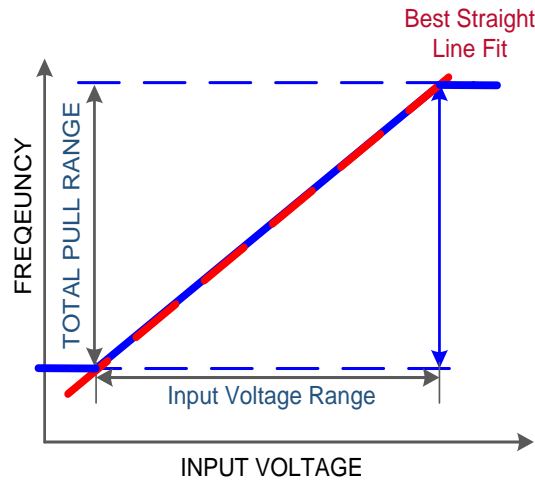

Figure 39. Typical SiTime VCTCXO Linearity
In any VCTCXO, there will be some deviation of the frequency-voltage (FV) characteristic from an ideal straight line. Linearity is the ratio of this maximum deviation to the total pull range, expressed as a percentage. Figure 39 below shows the typical pull linearity of a SiTime VCTCXO. The linearity is excellent (1% maximum) relative to most quartz offerings because the frequency pulling is achieved with a PLL rather than varactor diodes.